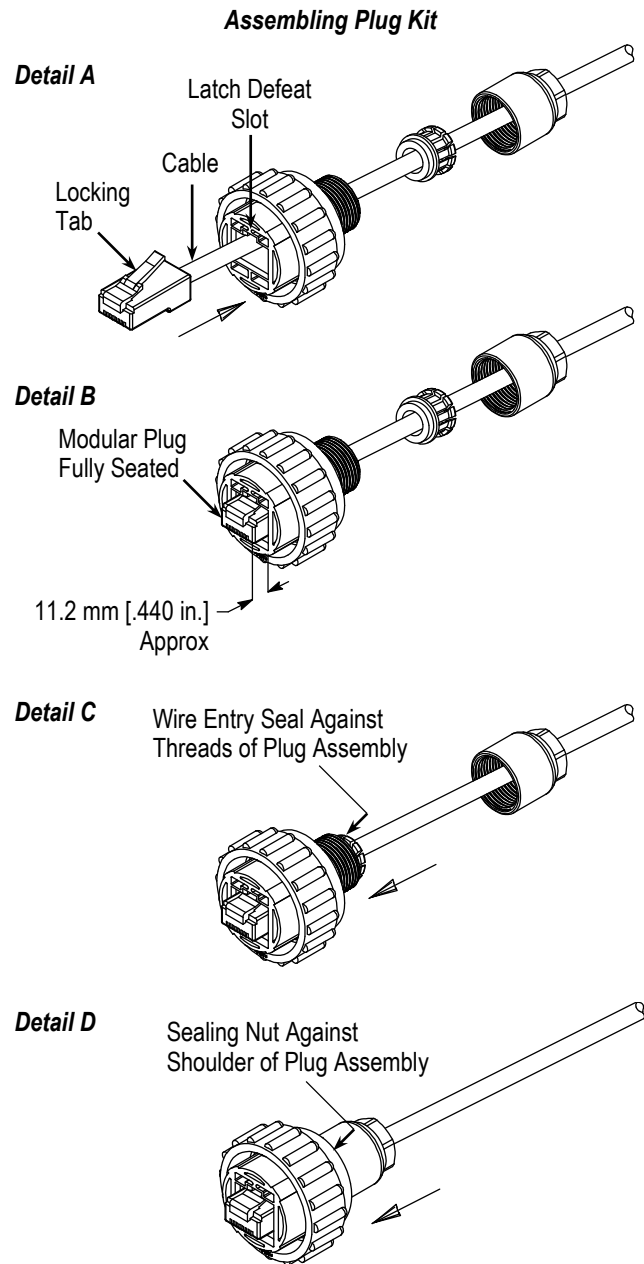

Figure 2
- Slide the sealing nut, wire entry seal, and plug assembly onto the cable. Make sure to orient the components as shown in Figure 2, Detail A.
- Align the locking tab of the modular plug with the latch defeat slot of the plug assembly. See Figure 2, Detail B. Depress the locking tab, and insert the modular plug into the plug assembly. Push the plug until it is fully seated. There should be approximately
- Slide the wire entry seal against the threads of the plug assembly. See Figure 2, Detail C.
5. While holding the modular plug in position, thread the sealing nut onto the plug assembly until tightened to a torque of 1.0 N-m [8.85 in.-lb]. Make sure that the sealing nut is flush against the shoulder of the plug assembly. See Figure 2, Detail D.